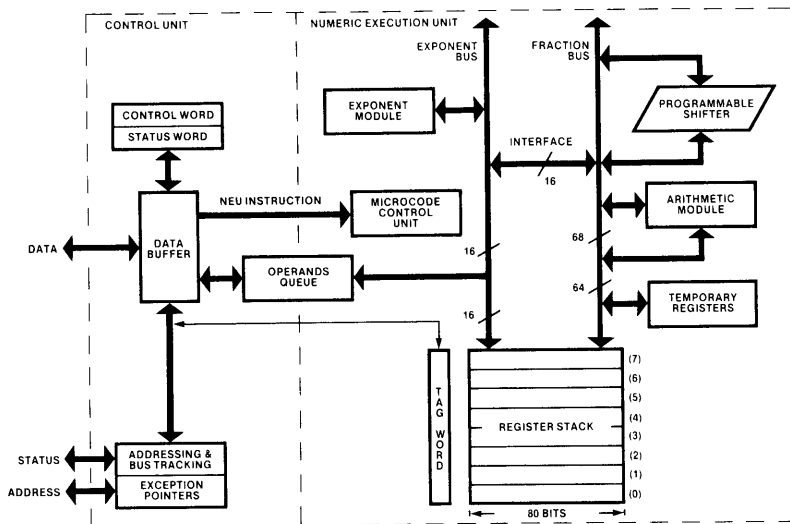

Figure 1. 8087 Block Diagram
As shown in Figure 1, the NDP is internally divided into two processing elements, the control unit (CU) and the numeric execution unit (NEU). The NEU executes all numeric instructions, while the CU receives and decodes instructions, reads and writes memory operands and executes processor control instructions. The two elements are able to operate independently of one another, allowing the CU to maintain synchronization with the CPU while the NEU is busy processing a numeric instruction.